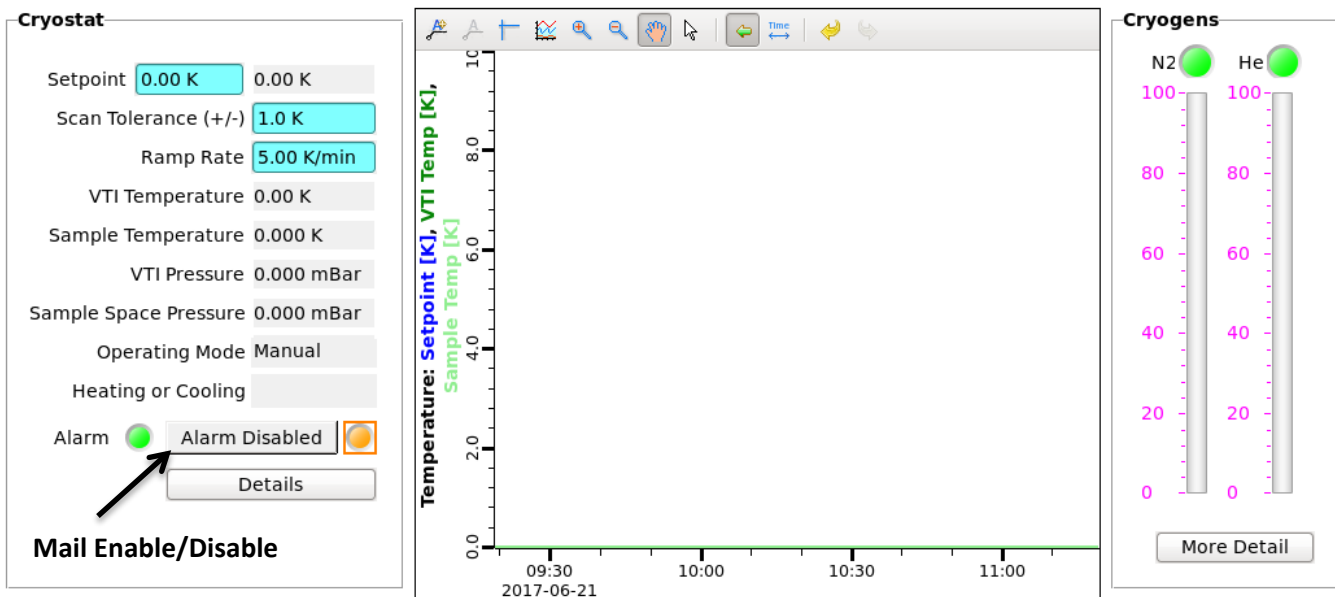

Figure 1. Cryostat controls on the dashboard.
- a. Disable the alarm by clicking the “Alarm Enabled” button in the Cryostat box on the dashboard (Fig 1).
- Finally, re-enable the alarm by clicking the "Alarm Disabled" button in the Cryostat box on the dashboard (Fig 1).